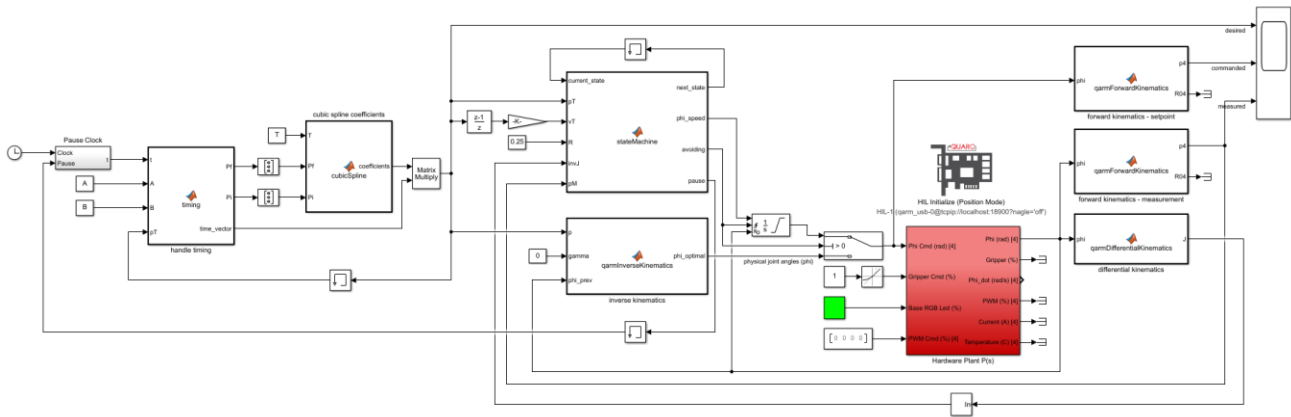

Figure 3: Simulink model that implements a singularity avoidance algorithm using a finite state machine
1. Open the Simulink model SingularityAvoidance.slx (Figure 3).
- Open the stateMachine MATLAB function. Using the Concept Review as a guide, complete the script to implement the finite state machine shown in Figure 3. You are required to complete the State Transition and State Action sections for states 1, 2, 3, and 4, namely assuming the appropriate values to the following variables: `next_state`, `phi_speed`, and `avoiding`. Recall that the state machine will determine if the target position (`pT`) falls within the singularity avoidance region; if it does an alternative trajectory along the surface of the singularity avoidance cylinder is commanded to the end-effector otherwise the original cubic spline trajectory (`P`) is commanded. In the function, by setting the variable `avoiding` to 1, you will force the end effector to follow the perimeter of the avoidance region, otherwise setting it to 0 commands the linear trajectory.